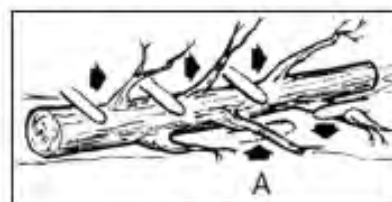

Fig.7
Limbing a tree is the process of removing the branches from a fallen tree (Fig.7). Do not remove supporting limbs (A). Branches under tension should be cut from the bottom up to avoid binding the chainsaw.